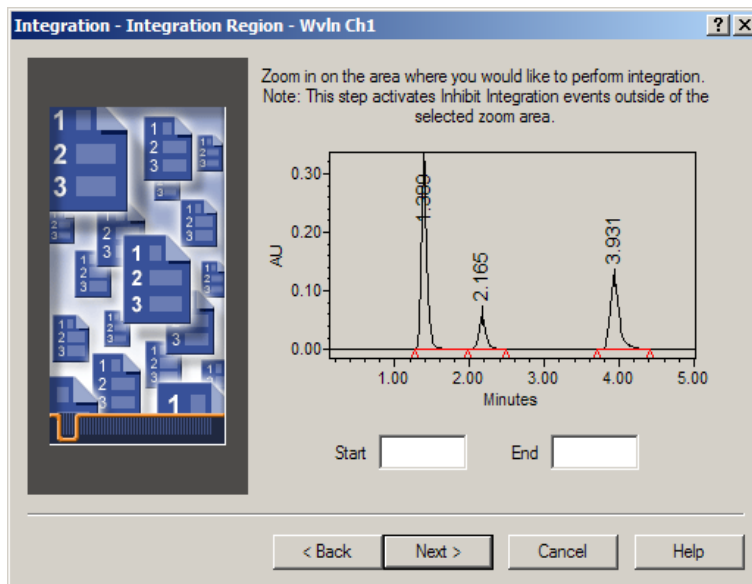

Figure 4-20 Integration - Integration Region Page
8. Click **Next** to go to the Integration - Integration Region page (Figure 4-20)